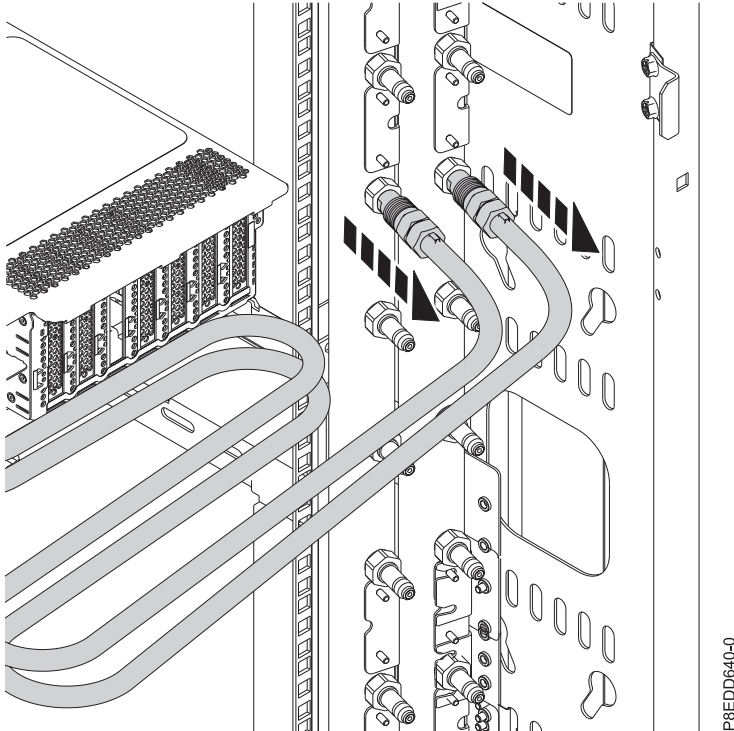

Figure 41. Disconnecting the water hoses
16. Disconnect the water hoses at the rear of the rack and remove them from the cable management arm, as shown in Figure 41.